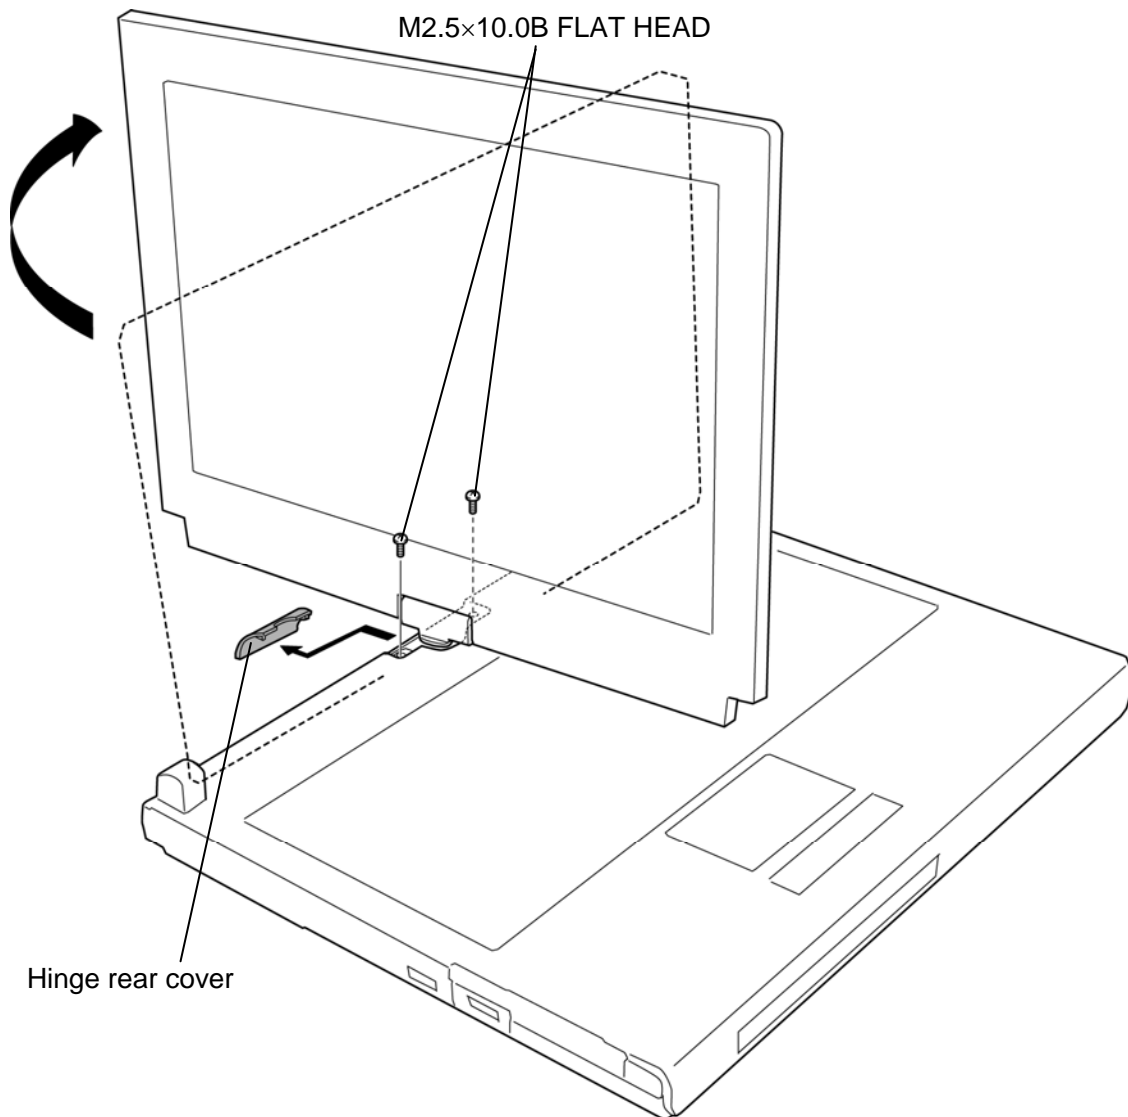

Figure 4-26 Removing the base assembly and cover assembly (2)
- M2.5×16.0B FLAT HEAD screw ×3 (“16” in the figure 4-26)
- M2.5×6.0B FLAT HEAD screw ×10 (“6” in the figure 4-26)